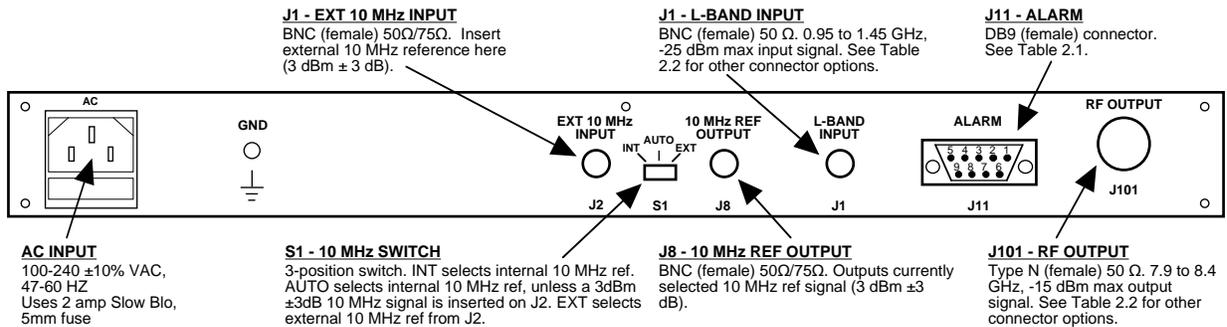

FIGURE 2.1 Rear Panel I/O's
Figure 2.1 shows the input and output connectors on the rear panel.
1. Connect a -25 dBm to -40 dBm signal to L-BAND INPUT, J1 (Figure 2.1).
5. Select either INT (for internal 10 MHz ref), AUTO (for internal 10 MHz ref UNLESS a external 10 MHz, 3 dBm signal is connected to J2), or EXT (for external 10 MHz, 3 dBm ref that is inserted at J2) on rear panel switch S1 (Figure 2.1).
7. Check that a 10 MHz, 3 dBm \pm 3 dB signal is present at the 10 MHz REF OUTPUT (J8) (Figure 2.1).